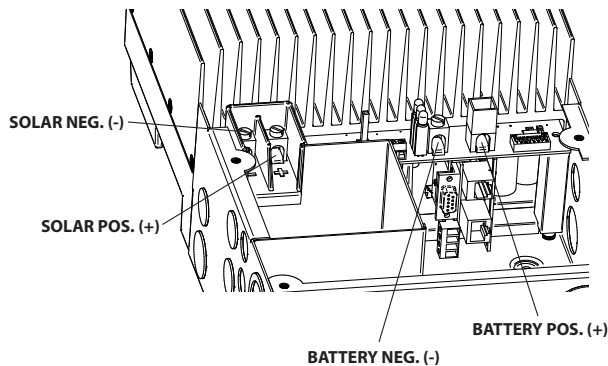

Figure 3-14. Power Terminal Locations
**Connect the four (4) power conductors shown in Figure 3-14 as described in the following steps:**
8. Connect the battery (-) wire to the battery (-) terminal on the TriStar MPPT 600V. See Figure 3-14.
9. Torque 5/16 in. power terminal screws to 50 in-lbs (5.65 Nm). Replace cover, and secure with four (4) screws.